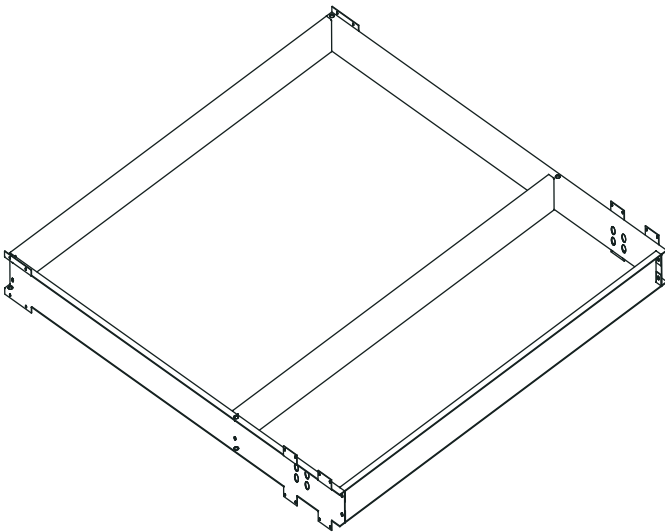
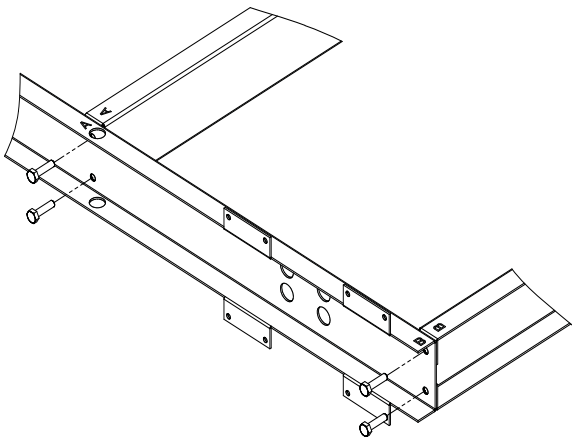

Fig. 7 — Base Rails
Fig. 8 — Letter Coding on Base Rail Parts
2. Assemble the base rails (provided with mixing box). (See Fig. 7.) All hardware required for assembly is included and the base rails are letter coded for ease of assembly. (See Fig. 8.)